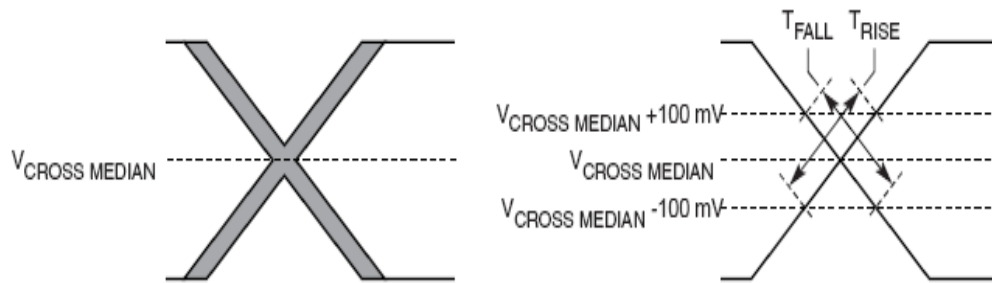

Figure 17. Single-Ended Measurement Points for Rise and Fall Time Matching
6. Matching applies to rising edge for SR[1–2]_REF_CLK and falling edge rate for $\overline{\text{SR}}[1–2]_{\text{REF_CLK}}$. It is measured using a 200 mV window centered on the median cross point where SR[1–2]_REF_CLK rising meets $\overline{\text{SR}}[1–2]_{\text{REF_CLK}}$ falling. The median cross point is used to calculate the voltage thresholds that the oscilloscope uses for the edge rate calculations. The rise edge rate of SR[1–2]_REF_CLK should be compared to the fall edge rate of $\overline{\text{SR}}[1–2]_{\text{REF_CLK}}$; the maximum allowed difference should not exceed 20% of the slowest edge rate. See Figure 17.